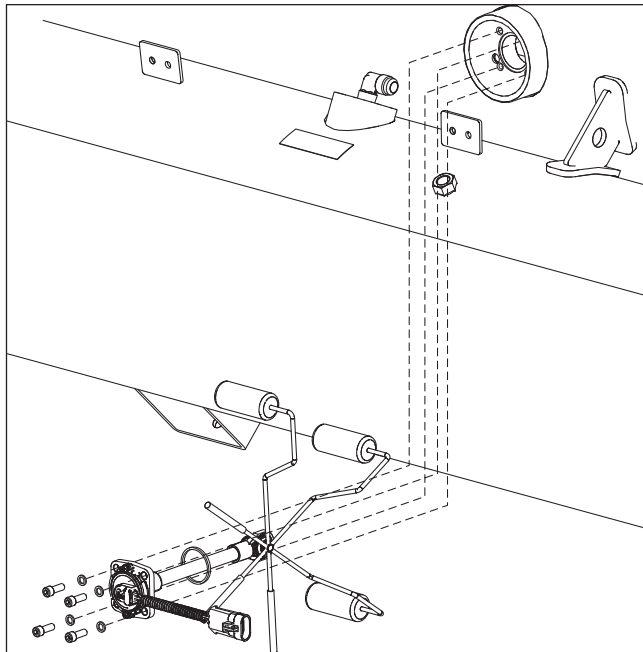

Figure 48 – Fuel Level Sender Installation
1. Install the new fuel level sender into the tank aligning it properly, see Figure 48. Apply silicone lubricant to the O-ring on the sender.